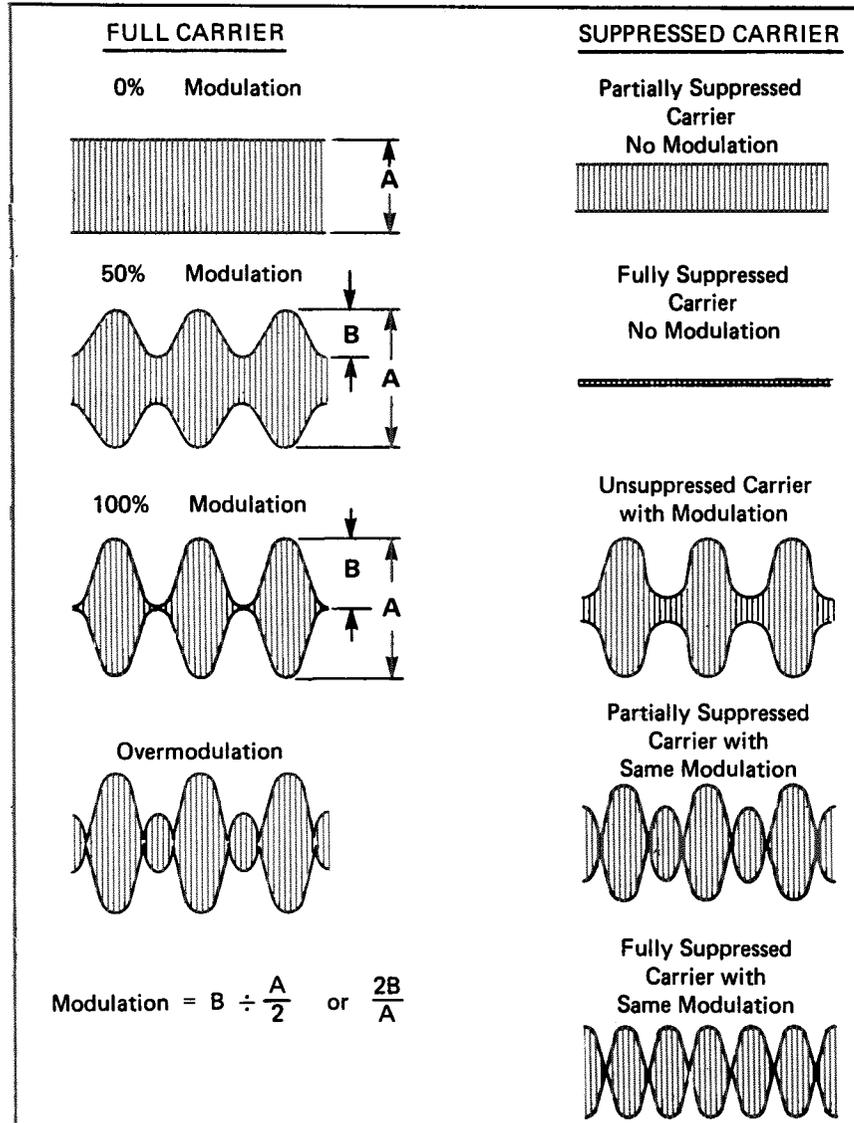

Fig. 9. AM modulation and suppressed carrier waveforms.
4. Adjust percentage of modulation with the MOD LEVEL control. Fig. 9 shows how to measure percentage of modulation with an oscilloscope.
5. Set the CARRIER LEVEL control fully ccw for AM operation. Turning the CARRIER LEVEL control clockwise reduces the carrier level, but not the double sidebands. Full suppression of the carrier produces a double sideband (DSB) signal. Fig. 9 illustrates the suppressed carrier waveforms.
- As the CARRIER LEVEL control is rotated from fully clockwise to fully counterclockwise, carrier level reduces from maximum to minimum, then increases with opposite polarity. Minimum carrier level is obtained at the null near the center of the CARRIER LEVEL adjustment range. This is easily seen with no modulation applied as shown in Fig. 9.
- With a given modulating signal applied, the percentage of modulation increases as the carrier level is reduced. Significant reduction in the carrier level will produce over-modulation. Minimum carrier level is obtained when the overmodulation envelopes are of equal amplitude as shown in Fig. 9.